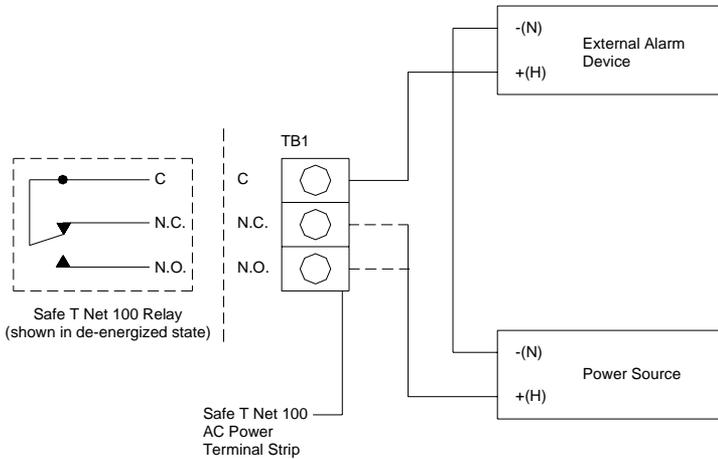

Figure 3-2 External Alarm Wiring
3. Connect the wiring (see Figure 3-2) to the appropriate relay connection (**ALARM**, **WARN**, or **FAIL**). Connect the positive or hot lead of the external alarm device to **C** (common). Connect the positive or hot lead of the external alarm's power source to **N.C.** (normally closed) or **N.O.** (normally open). Connect the negative or neutral lead of the external alarm's power source to the negative or neutral lead of the alarm device.